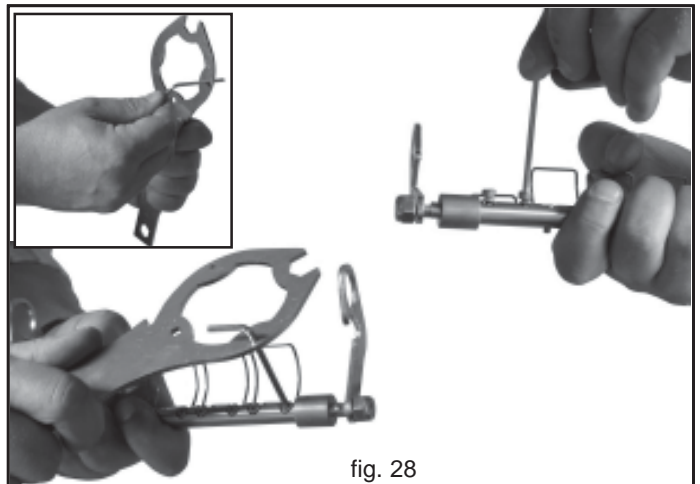

fig. 28
- 5) Use the supplied multi-purpose wrench and an Allen wrench (no. 3) to loosen the fastening screws of the spring elements as shown in Figure 28.